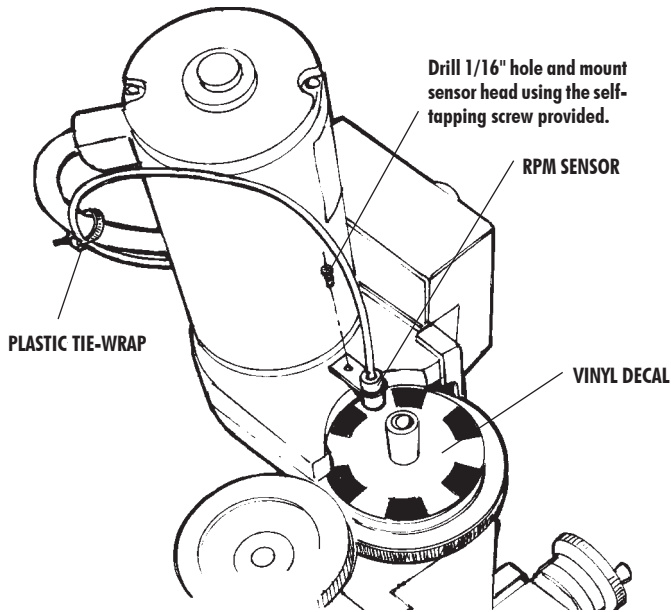

FIGURE 8—Mounting the sensor to the belt housing in the mill configuration. The mounting position would be the same in the lathe configuration.
3. Locate the RPM sensor by holding it in the position shown in Figure 8. Mark the center of the hole on the plastic belt housing and drill a 1/16" hole. Fasten the sensor to the belt housing using the self-tapping screw provided. (Do not overtighten or you can strip the threads.) A plastic tie-wrap is provided to secure the sensor lead to the motor's power cord to keep it out of the way.